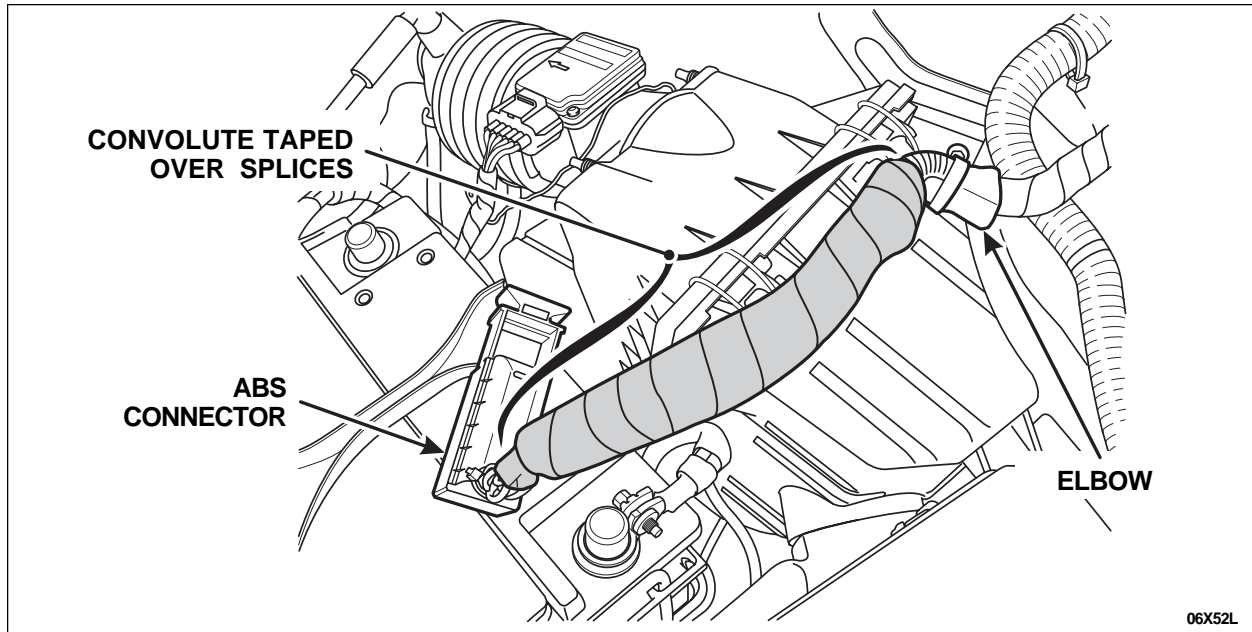

FIGURE 21
7. Install the supplied convolute tubing over the spliced area and secure with electrical tape. Apply tape to the entire length of the convolute and be sure to secure the convolute to the elbow at one end, and as close as possible to the ABS connector on the other. See Figure 21.